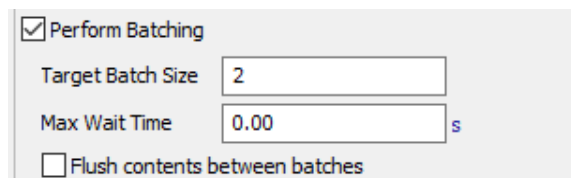

Fig. 12 *Perform option Batching*
5. **Perform Batching** – allows you to create a batch whose size is determined by *the Target Batch Size*. If the buffer contains the specified number of elements, they will be sent to the next object. In *the Max Wait Time field*, you can specify the maximum time to build the batch. Entering "0" means that the elements will be sent to the given object only after the batch is completed. On the other hand, selecting *the Flush contents option between batches* means that the buffer can only contain elements that are part of the same batch (Fig. 12).